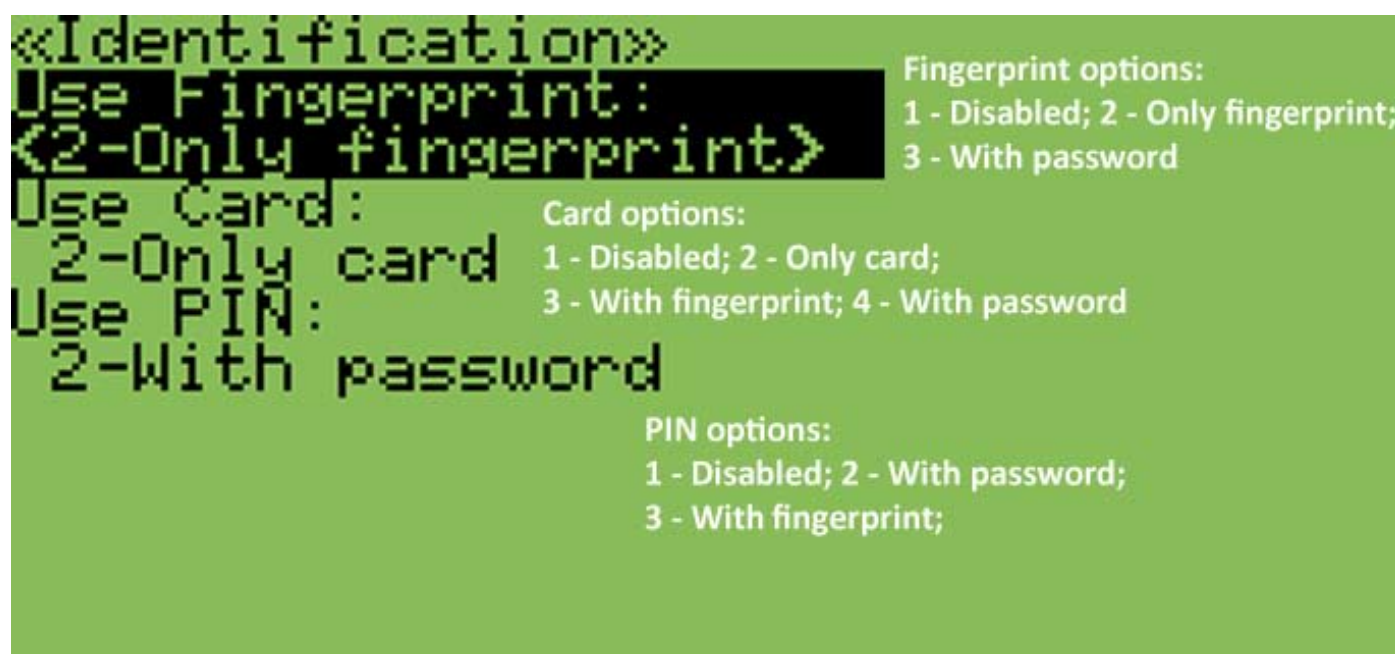

Fig. 33 - In this section is possible to configure an identification mode.
- 6 - In "Use fingerprint option select one of the following options; (fig. 33);